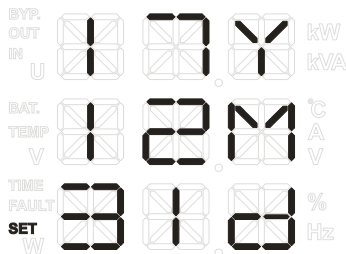

Figure4-10 Year, month, day setting
Year/month/day setting page: in the page, press  (ON) button more than 1s, it will enter year/month/day setting page. In the setting page, the 6 numbers all can be set. Corresponding setting place flickers. Press  (ON) button or  (OFF) button more than 1s to move up or move down the setting place, short press  (select) button to change from 0 to 9 circularly. If you do not confirm to select the setting, 20s later, it will exit the setting page automatically. Corresponding LCD display is as shown in Figure4-10.